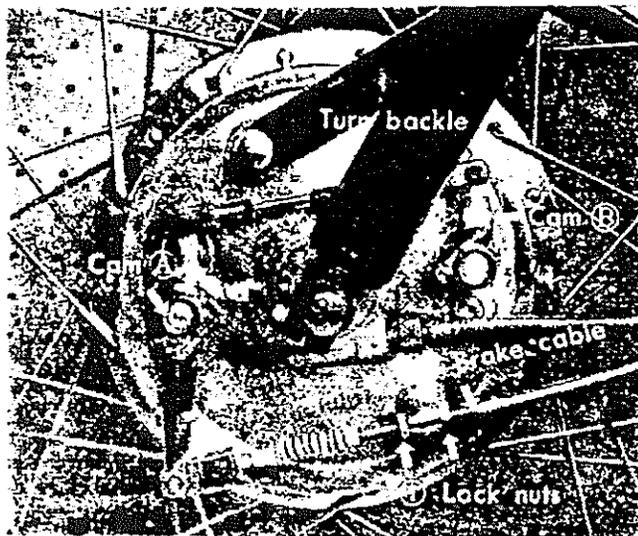

Fig. 18
- c) Because of the double cams on the drum, the ① and ② of cam arms must be set parallel with ③ lock nuts and turn-buckle at all times, to prevent uneven brake action. (Fig. 18)